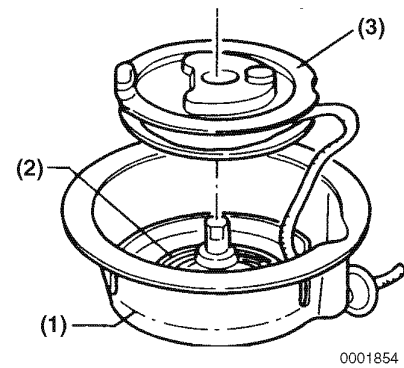

Figure 10-41
7. *NOTICE: If the reel is removed too quickly, the spring may unexpectedly come out of the housing.* Carefully remove the reel (**Figure 10-41, (3)**) from the starter housing (**Figure 10-41, (1)**) while turning it gently left and right to disconnect the boss from the spring (**Figure 10-41, (2)**).